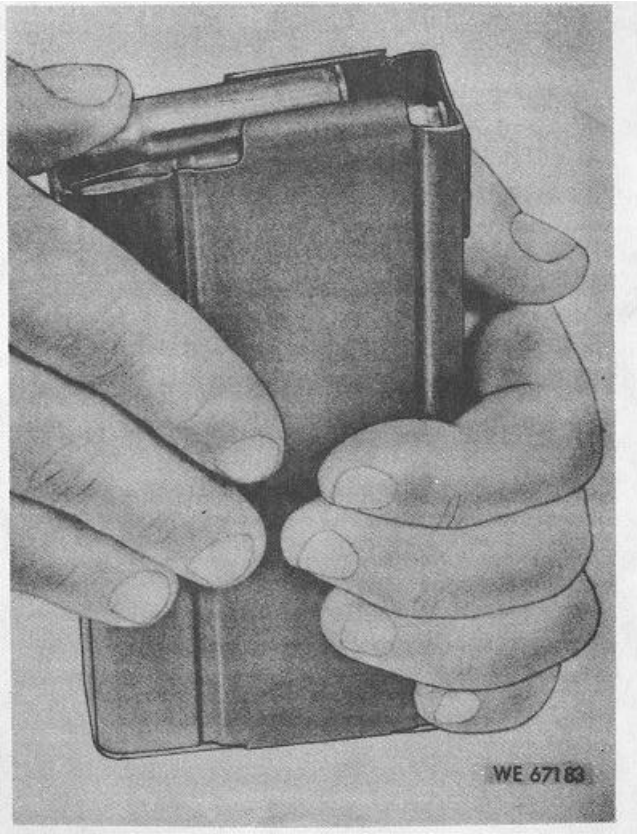

Figure 2-2. Loading magazine.
a. Hold magazine as shown in figure 2-2. Insert each cartridge with the bullet toward the front of the magazine.